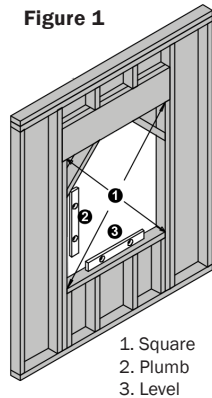

Figure 1
**Structural Support & Bracing:** Additional structural support for specialty shape windows will need to be added to the rectangular opening in the form of bracing and shimming, to prevent any vertical load from being transferred to the window. Additional support also provides more anchor points for fasteners to securely hold the window square, plumb and level (fig.1).
**MEASURING FOR SQUARE:** Take measurements from bottom left corner to top right corner and bottom right corner to top left corner and compare. If measurements are equal the R.O. is square. If measurements are not equal, R.O. is out of square and it is then the responsibility of the installer to remedy this problem (fig.1).
**CHECKING FOR PLUMB:** Place a level on both sides of the R.O. making sure the vertical measurement of each side is true. If R.O. is not plumb, it is then the responsibility of the installer to remedy this problem (fig.1).
**CHECKING LEVEL:** Place a level on the sill of the R.O. making sure the horizontal measurement on the sill is level. If opening is not level, the use of shims may be used to level the sill (fig.1).